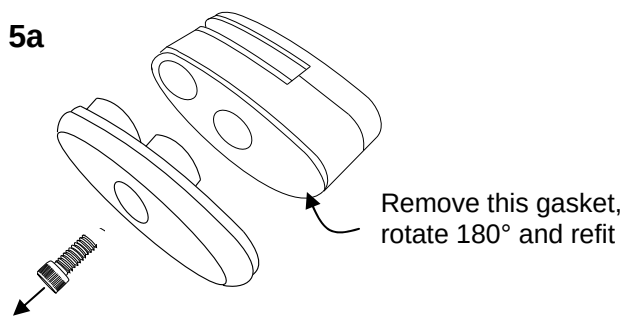
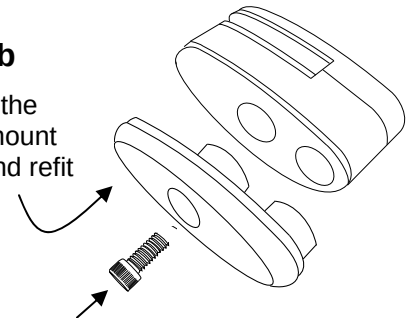

Fig. 5b
Fig. 6
7. Rotate the Wing mount 180° (Fig 5b) and insert the posts through the corresponding holes on the Side Wing. The Wing mount should face the front. Reassemble the Biplane clamp by fitting and tightening the socket head cap screw (Fig 6). Do this for each pair of holes